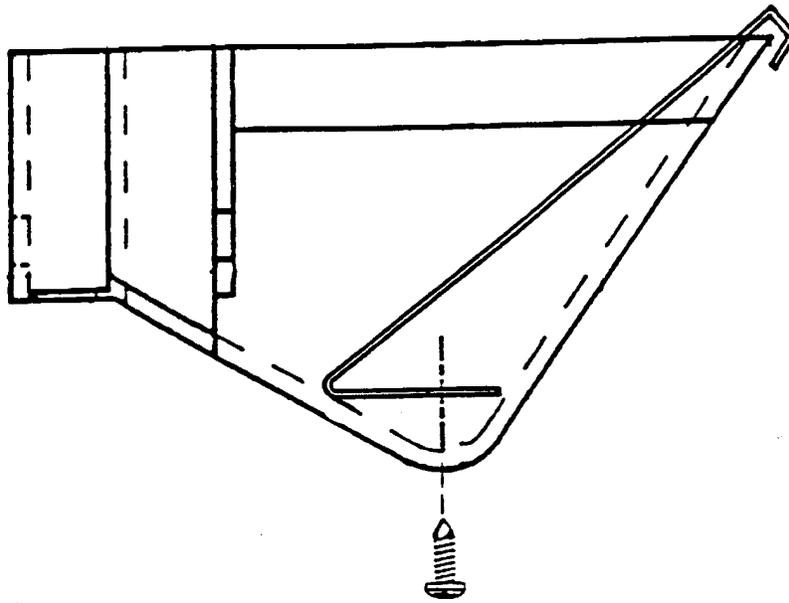

Figure 1
1. Place the coin cup filler plate in the plastic coin cup as shown in figure 1.